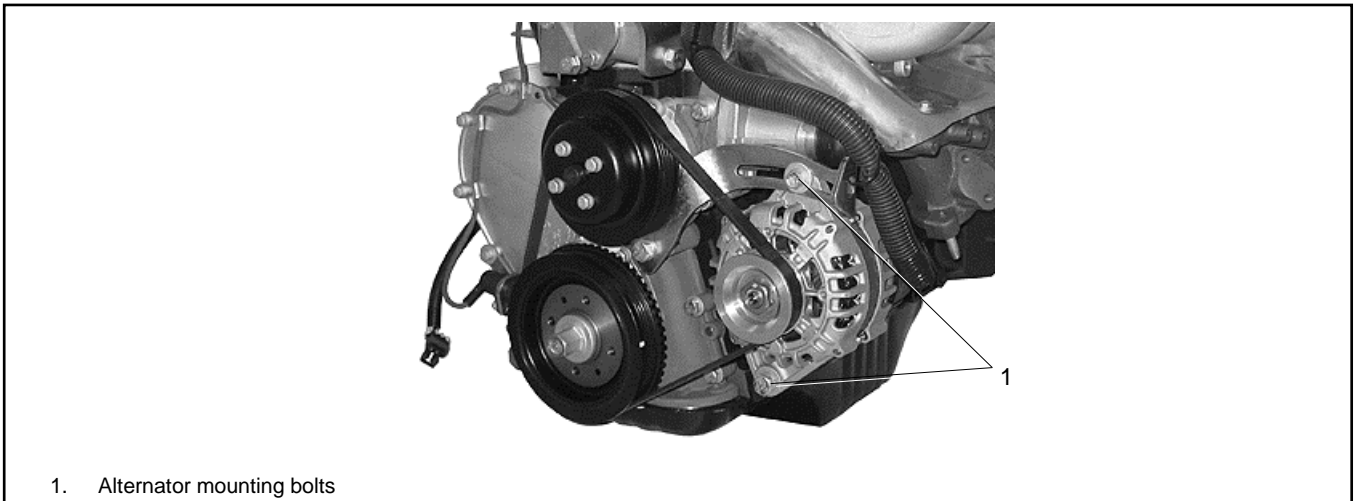

Figure 31 Alternator Mounting Bolts
1. Loosen the two alternator mounting bolts on the alternator and mounting bracket. See Figure 31.